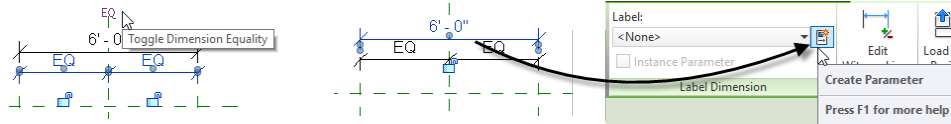

Figure 6
9. Select each of the continuous strings and toggle on the Equality (click the small EQ icon see the left side of Figure 6).
10. Select the 6'-0" overall dimension. On the ribbon, next to the Label drop-down, click the small Create Parameter icon (see the right side of Figure 6).